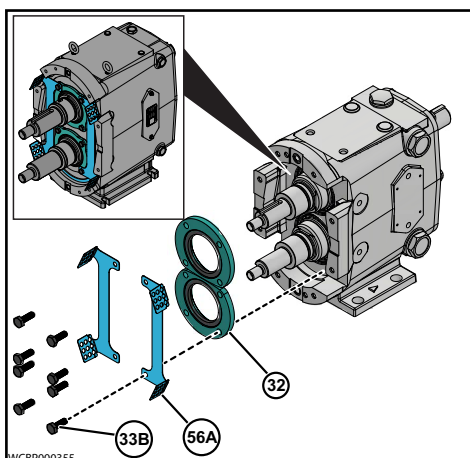

Figure 60 - Install Bearing Retainer and Seal Guard
NOTE: The Figure 60 is shown for reference only. This step applies only to rectangular flange bodies.
20. Install the Bearing Retainers (32) and Seal Guard-Vertical (56A). Tighten them with bearing retainer screws (33B), as shown in Figure 60.